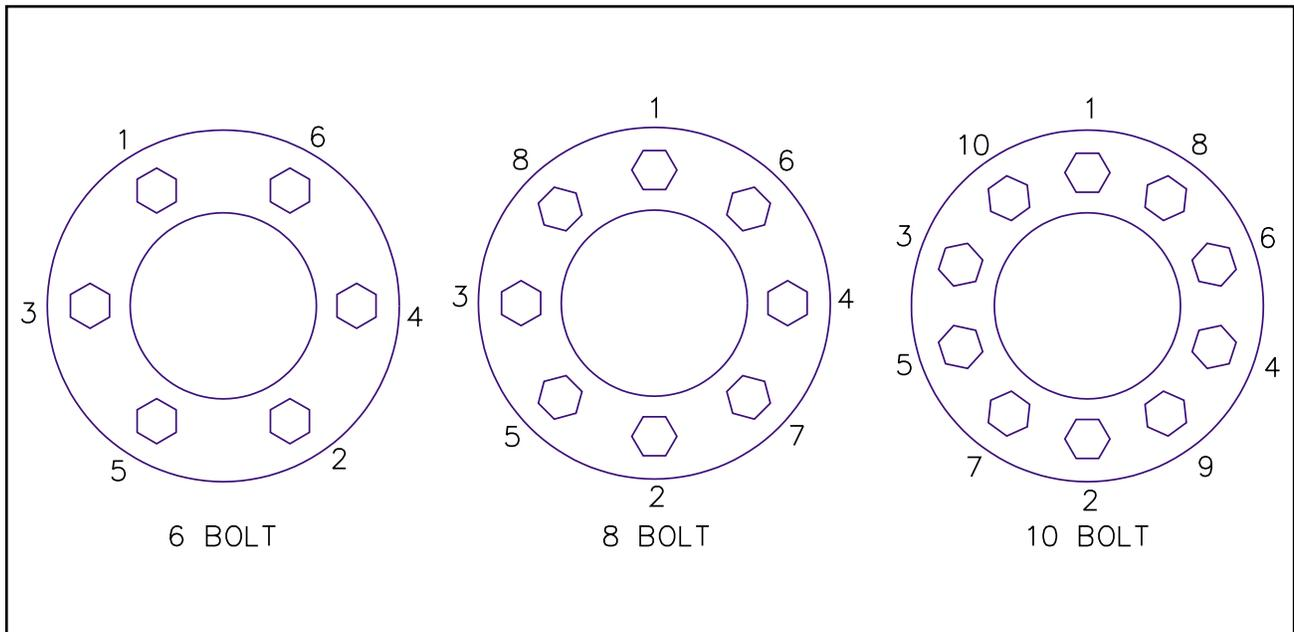

Figure 4-17 Stud Tightening Sequence
- c. For **ball seat mounted wheels** only, install the inner capnuts on the studs and tighten to fifty foot-pounds using the sequence illustrated in Figure 4-17. Make certain that the left-handed threads are installed on the driver side of the vehicle and the right-handed threads are installed on the curbside of the vehicle.
- d. Tighten the inner capnuts to full torque of 450 to 500 foot-pounds using the sequence shown in Figure 4-17.
- g. Install the outer capnuts (ball seat) or flange nut (pilot mount) and tighten to 50 foot-pounds using the sequence in Figure 4-17. Then tighten to full torque of 450 to 500 foot-pounds for ball seat and 500 to 550 foot-pounds for pilot mount, using the same sequence.